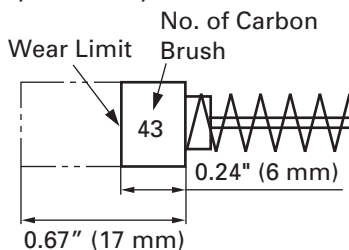

Fig. 30
4. Inspecting the carbon brushes (Fig. 30)
NOTE: Use HITACHI carbon brush No. 43 indicated in Fig. 30.